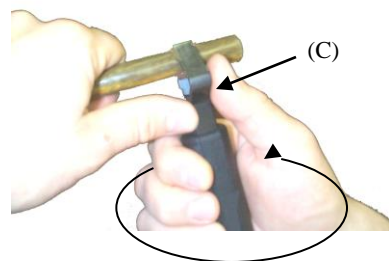

Fig.4
**Step 4.** (Fig.4) **For a longitudinal cut**, twist the tool handle 1/4 turn to the right and pull toward the end of cable.
**Note:** Maintain this tool position by placing the thumb on the side of the upper jaw frame (C).